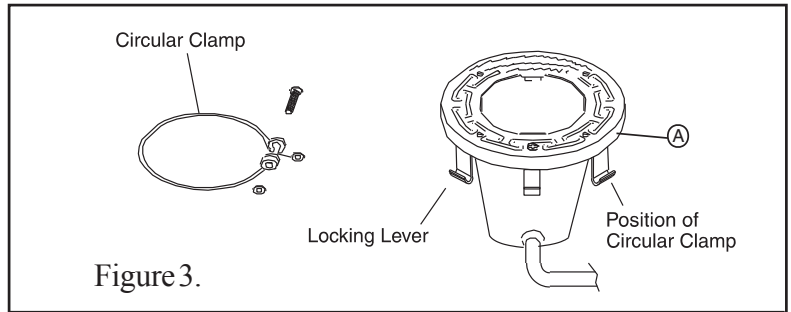

Figure 3.
- (1) With the light resting on its base, align the face ring, and lens/gasket on top of the light shell as described in Step 6. A NEW LENS GASKET MUST BE USED EACH TIME THE LIGHT IS REASSEMBLED. The locking levers should all be hanging freely down to install over the lens and gasket. Before installing the Unitension Clamp be sure that the gap at the ends of the clamp is approximately 1 in. apart. Pull the ends of the Unitension Clamp past one another to accomplish this.
- (2) With the bent ends of the circular unitension clamp pointing down spread the clamp and place it in the "U" recesses of the locking levers. Be sure the bent ends of the clamp are located between the pair of locking levers as shown in Figure 3, location A. Check to see that the clamp is properly engaged with all of the levers.